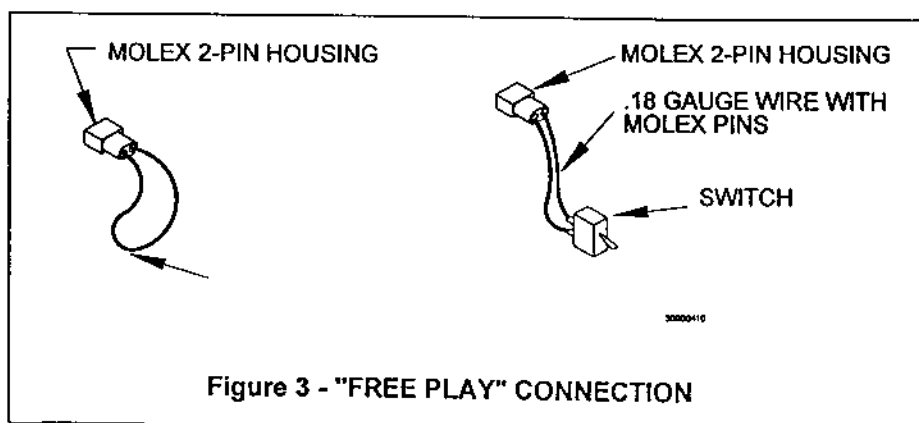

Figure 3 - "FREE PLAY" CONNECTION
If you wish to enable free play, you will need (2) .062 male Molex pins, a connector housing and .18 gauge wire. Insert the Molex pins into the connector housing and attach it to the existing 2-pin connector on the main harness. Loop the wire as seen in Figure 3. Free play mode is enabled as long as the connection is made.
If you want the ability to enable/disable free play without having to connect and disconnect the wires, Merit suggests you insert a switch. To do this, simply cut the looped wire and solder the ends to the switch (see Figure 3).